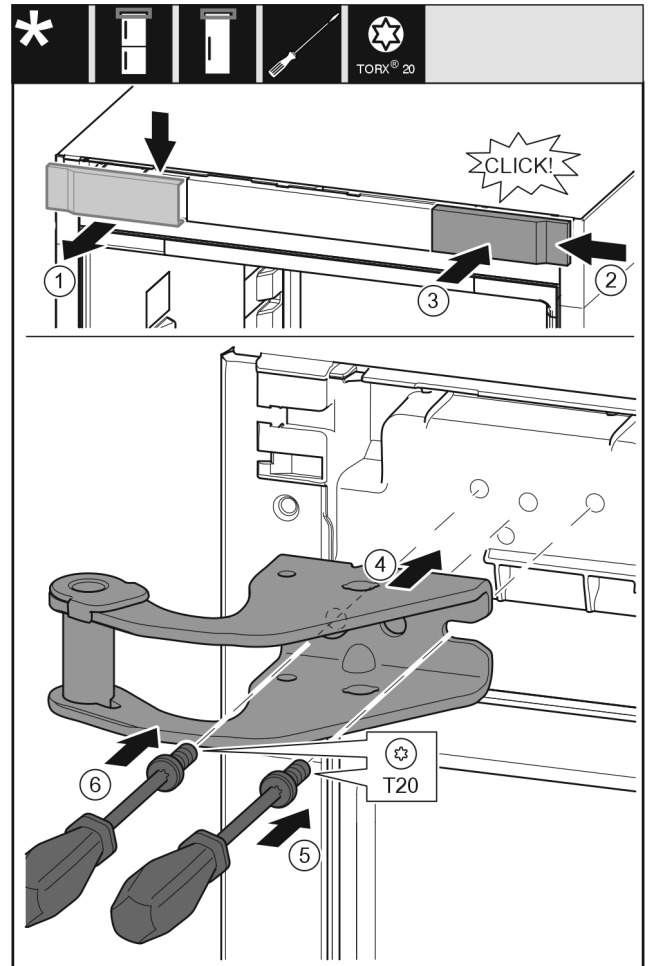

Fig. 32
- Remove the cover Fig. 32 (1) from above towards the front.
- Turn the cover Fig. 32 (2) by 180° and attach to the other side from the right.
- Engage the cover Fig. 32 (3).
- Place the top swap bearing block Fig. 32 (4).
- Use screwdriver Fig. 32 (5) to place the screw and tighten it.
- Use screwdriver Fig. 32 (6) to place the screw and tighten it.